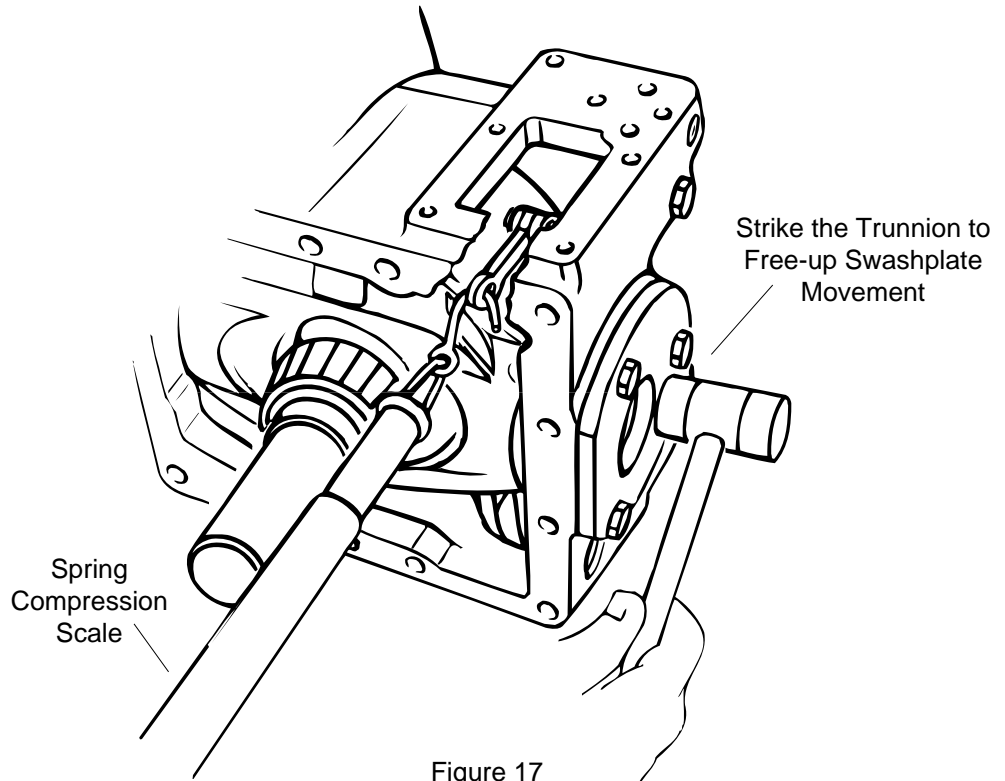

Figure 17
**63** Measure the swashplate breakaway force with a spring compression scale. Attach the scale to the feedback linkage as shown in figure 17. A swashplate breakaway force of 2 to 5 lb [0,9 to 2,3 Kg] is required. Add or subtract trunnion shims as needed.